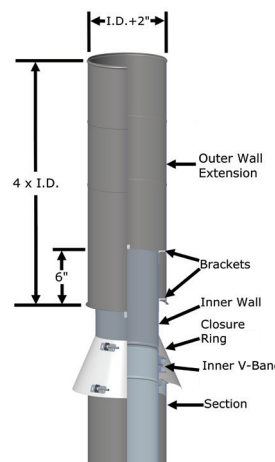

Figure 71a - No Loss Cap (NLC) installed or I.D. from 5" to 13"
The No Loss Cap is a "low loss" termination and is recommended by the American Conference of Government Industrial Hygienists (ACGIH): Industrial Ventilation Manual, 23rd Edition, Figure 5-30. Only as a vertical cap, it is designed to eliminate back-pressure on positive-pressure exhausting equipment while still protecting the equipment from the rain. This allows your equipment to operate as efficiently as possible and also allows the exhaust to blast unhindered straight up with full velocity. The last 6" of the inner flue is surrounded by a larger outer wall (I.D. +2") that has a height of 4 times the flue diameter and is open at the bottom. The Closure Ring (CR) must be seal to the inner wall with outer Sealant S-375. Rain water that falls into the larger chimney and discharges at the bottom. See Figure 71a.
For I.D. from 5" to 13", the No Loss Cap is an integral component that attaches to the chimney flue using a standard inner V-Band (BSI) (See JOINT ASSEMBLY Section). For Models DAS1, DIS1, DIS2 and DIS4, a Closure Ring (CR) is provided to protects the insulated space between standard pipe inner and outer. See Figure 71a.